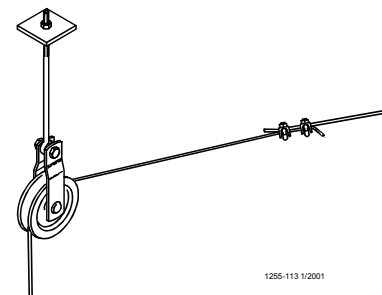
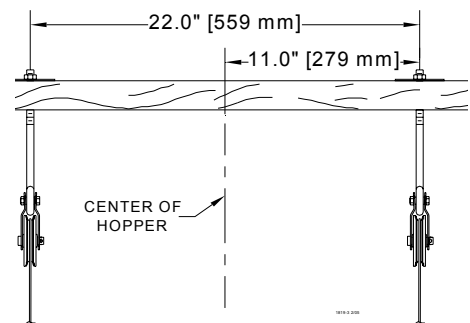

Figure 8. Steel Hopper Suspension
Figure 9. Plastic Hopper Suspension
•Feed Hopper Locations: **When steel hoppers with center suspension are used, see figure 8, the feeder line must be supported within 1' [30 cm] of the feed hopper.** When plastic hoppers are installed only 2 point suspension can be used, see figure 9, this does not require additional supports. See page 16 for plastic hopper suspension. This is in addition to the required Feeder Hopper suspension. After determining the type of suspension system required, decide where the Feeder Line is to be installed. Mark a straight line on the ceiling or rafters the full length of the Feeder Line. Use a string, chalk line, or the winch cable, temporarily attached with staples, to mark the line. Center the line directly over where the Feeder Line is to be installed.